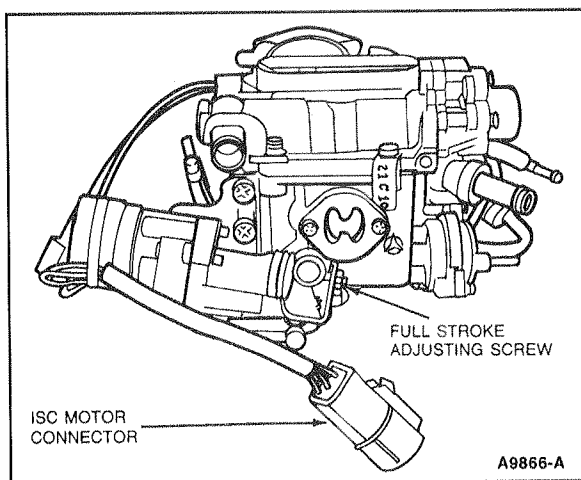

Figure 1 2.0L Engine Carburetor Full Stroke Adjustment
- j. Check/adjust ISC full stroke speed to  $2000 \pm 200$  rpm. Adjust the full stroke speed adjusting screw (Figure 1).